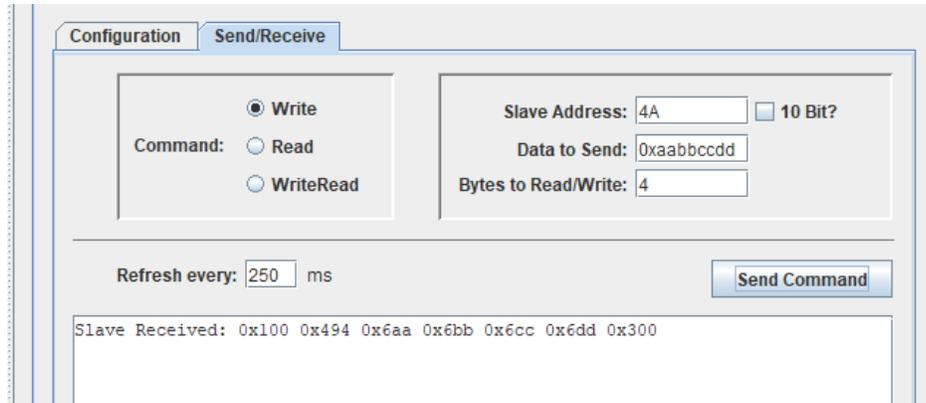

Figure 5-16 Write Command
2. As shown in **Figure 5-16**, use the “Write” command to write 0xAA, 0xBB, 0xCC, and 0xDD to the slave at address 0x4A. Click **Send Command** and view the slave RX FIFO data in the display window. The received data includes bus conditions as described in Section 2.3.5.3.2.